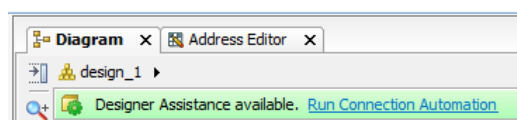

Figure 14: Run Connection Automation
1. Click **Run Connection Automation** as shown in Figure 14.